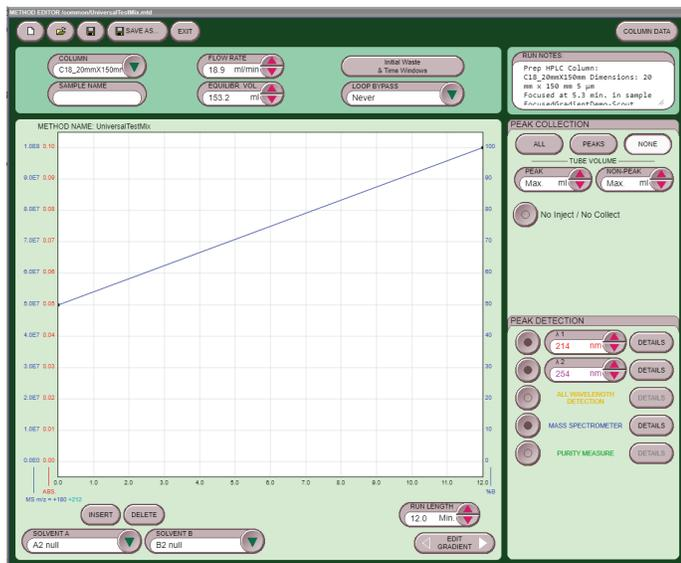

Figure 6: Method Editor Equilibration Volume
5. Set the maximum volume to the standard equilibration volume for the column. If unknown, check a previous method from Method Editor window for the value (Figure 6).